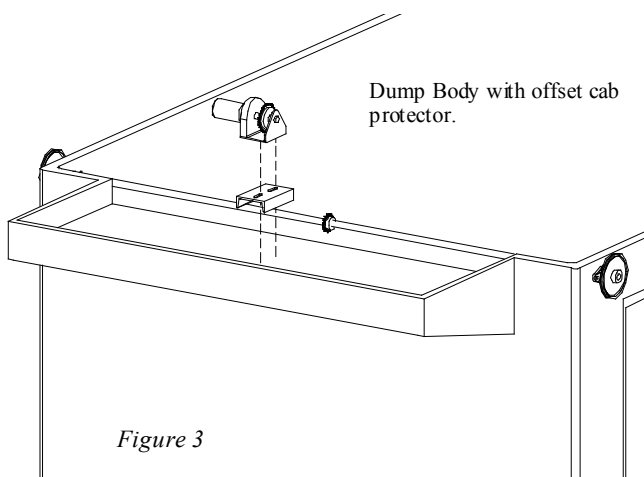

Figure 3
**Installing the motor for electric systems, see figure 3.** For outside mounts the motor comes pre-assembled and mounted to the K-Bar assembly. Therefore, installation is not required for this application. For inside mounts, however, the motor is mounted on a bracket inside the cab protector. First, fasten the motor to the mounting bracket provided sliding the bolts to the very front of the slots in the bracket. Then, place the motor at a point on the cab protector so that the sprocket on the motor lines up directly with the sprocket on the pulley shaft. Hold the motor in this position and weld the bracket to the cab protector. Next, install the sprocket chain by wrapping the chain around the sprocket on the motor, and then around the sprocket on the pulley shaft. Bring the two ends together and mark the chain at the desired length. Cut and discard the excess chain and fasten together with the master link provided. Finally, loosen the mounting bolts on the motor, pull the motor toward the front of the cab protector to tighten the chain, then retighten the mounting bolts.